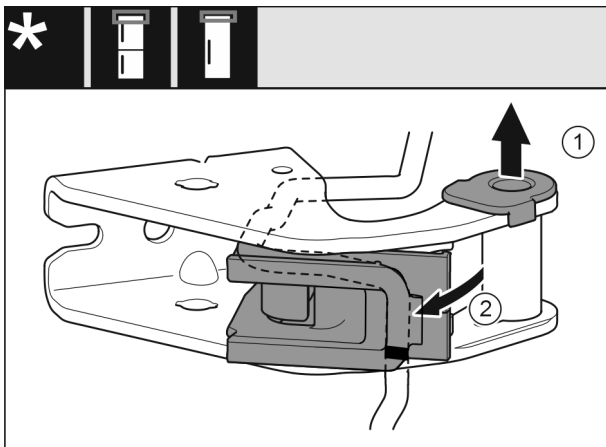

Fig. 28
- Pull the bearing bush Fig. 28 (1) out of the guide.
- Swivel the cable holder Fig. 28 (2) out.